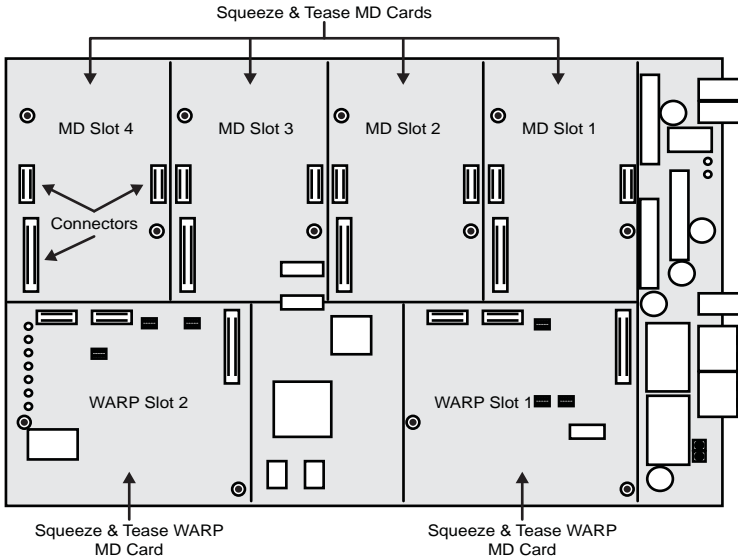

Figure 1 Squeeze & Tease Carrier Board — Daughter Card Slots
2. Locate the **Squeeze & Tease MD Channel Card Slot** (MD Slots 1 through 4) on the **Squeeze & Tease Carrier Board** that you want to install the **Squeeze & Tease MD Channel Card** into (**Figure 1**). Refer to the following tables for information on where to install the **Squeeze & Tease MD Channel Card** for your frame configuration.